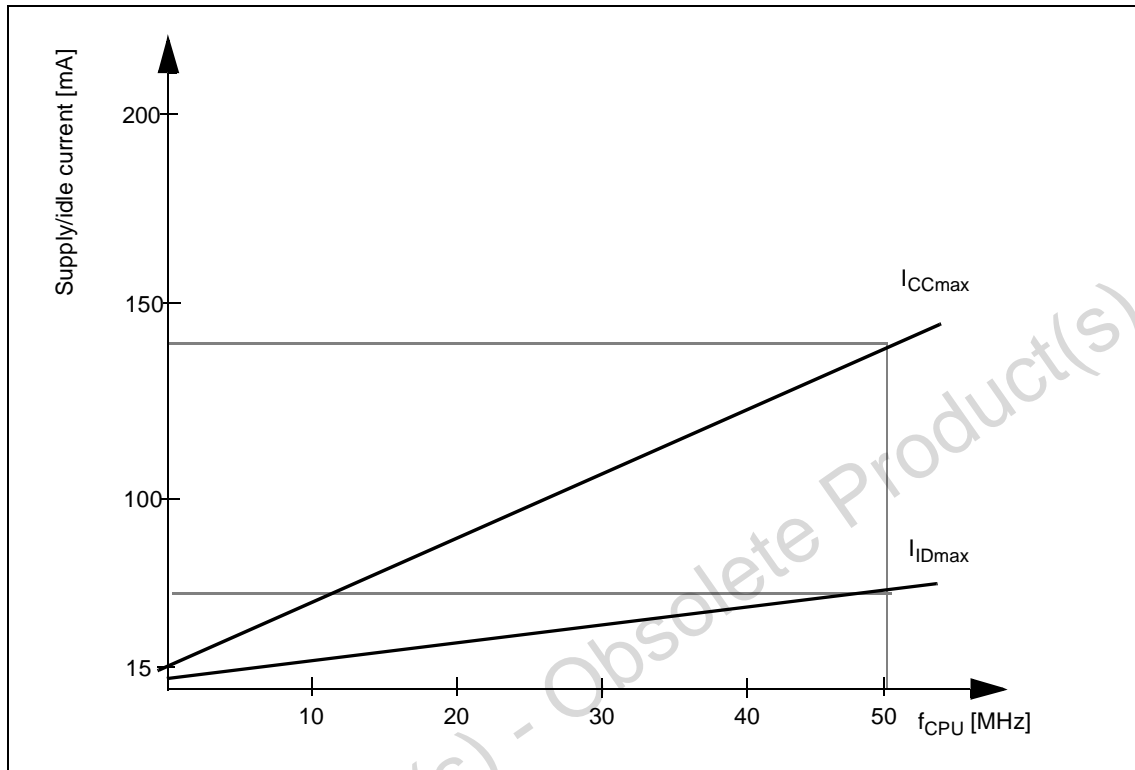

Figure 7 Supply/idle current vs operating frequency
- 7) Supply current is a function of operating frequency as illustrated in Figure 7 on page 35. This parameter is tested at V_{DDmax} and 50 MHz CPU clock with all outputs disconnected and all inputs at V_{IL} or V_{IH} with an infinite execution of NOP instruction fetched from external memory (16-bit demux bus mode, no waitstates, no memory tri-state waitstates, normal ALE).